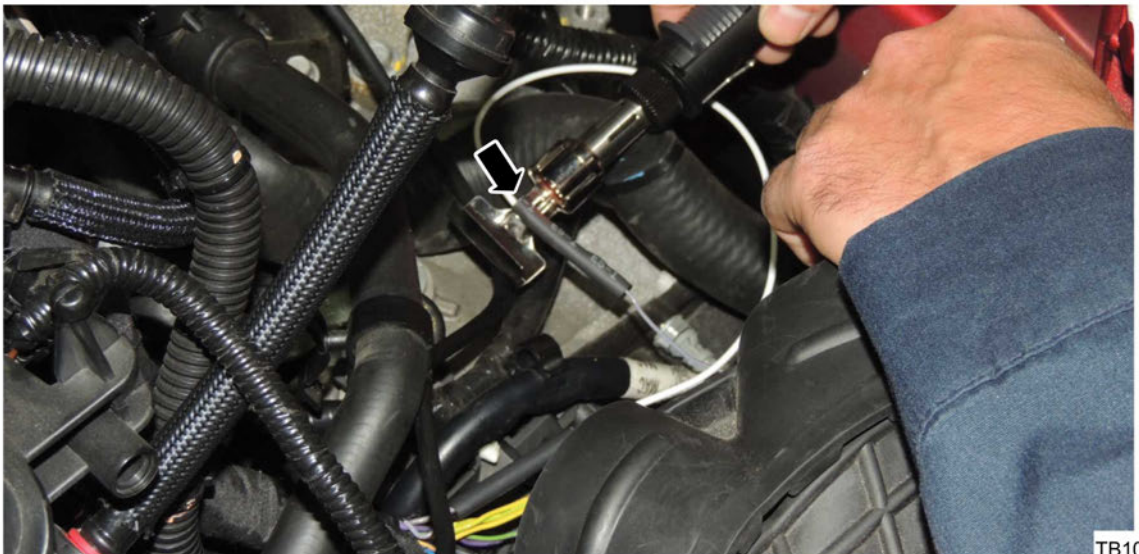

Figure 11 - Article 15-0007
17. Position the heat shrink tubing over both ends of the splice wire. Use a suitable heat gun such as Rotunda Shielded Flameless Heat Gun with Heat Deflector, number NAIAT-R5902, that is equipped with a shrink tubing attachment, to heat the heat shrink tubing until the sealant comes out of both ends. (Figures 11 and 12)